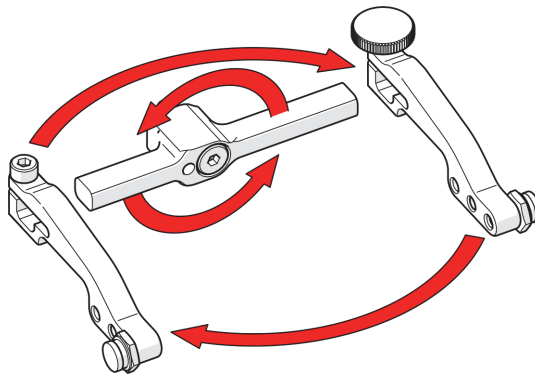

Figure 2-89 Flip yoke and reverse arms
4. Flip the yoke 180° and reverse the probe holder arms (see Figure 2-89 on page 106).